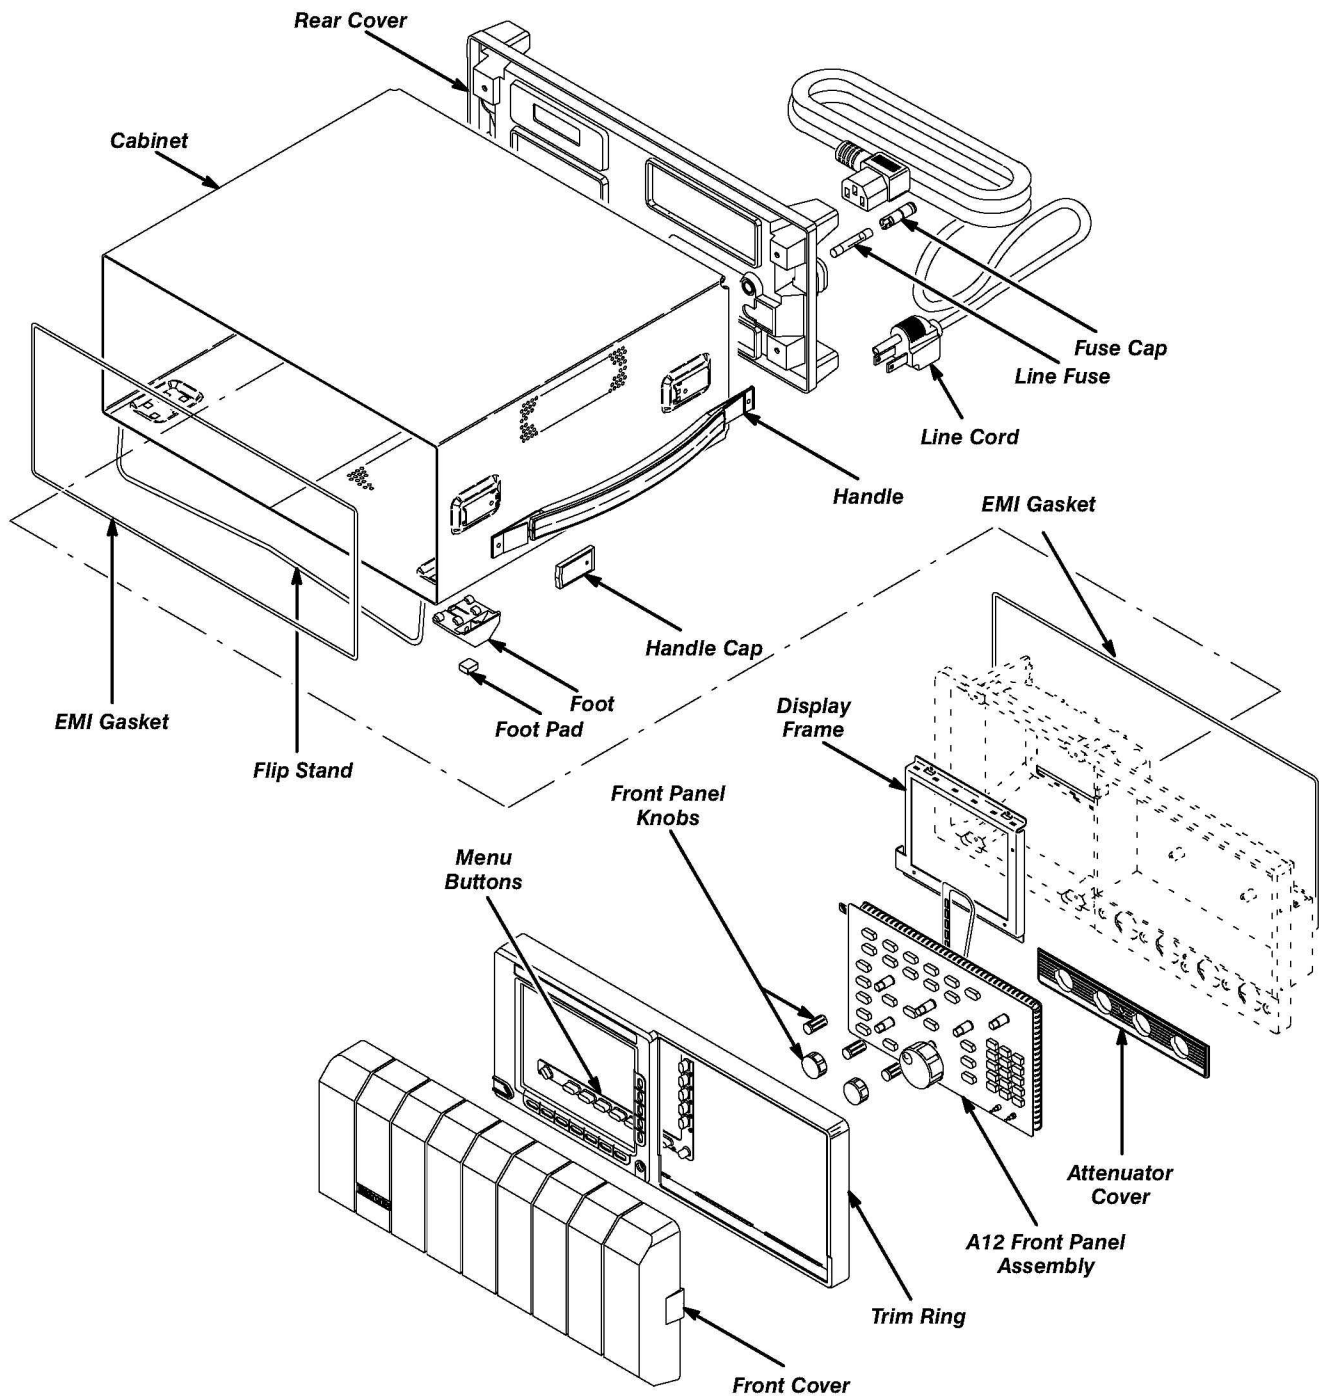
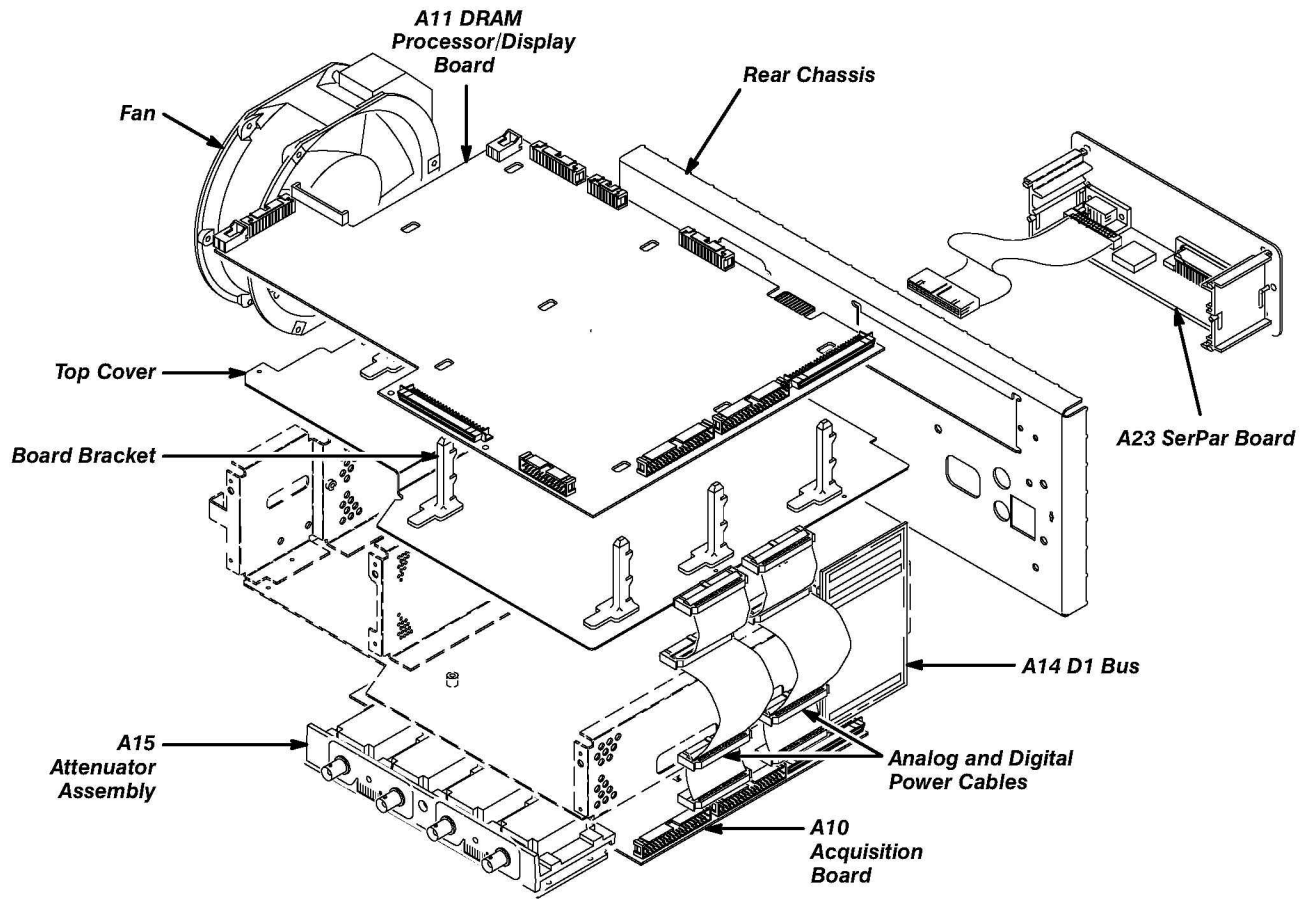
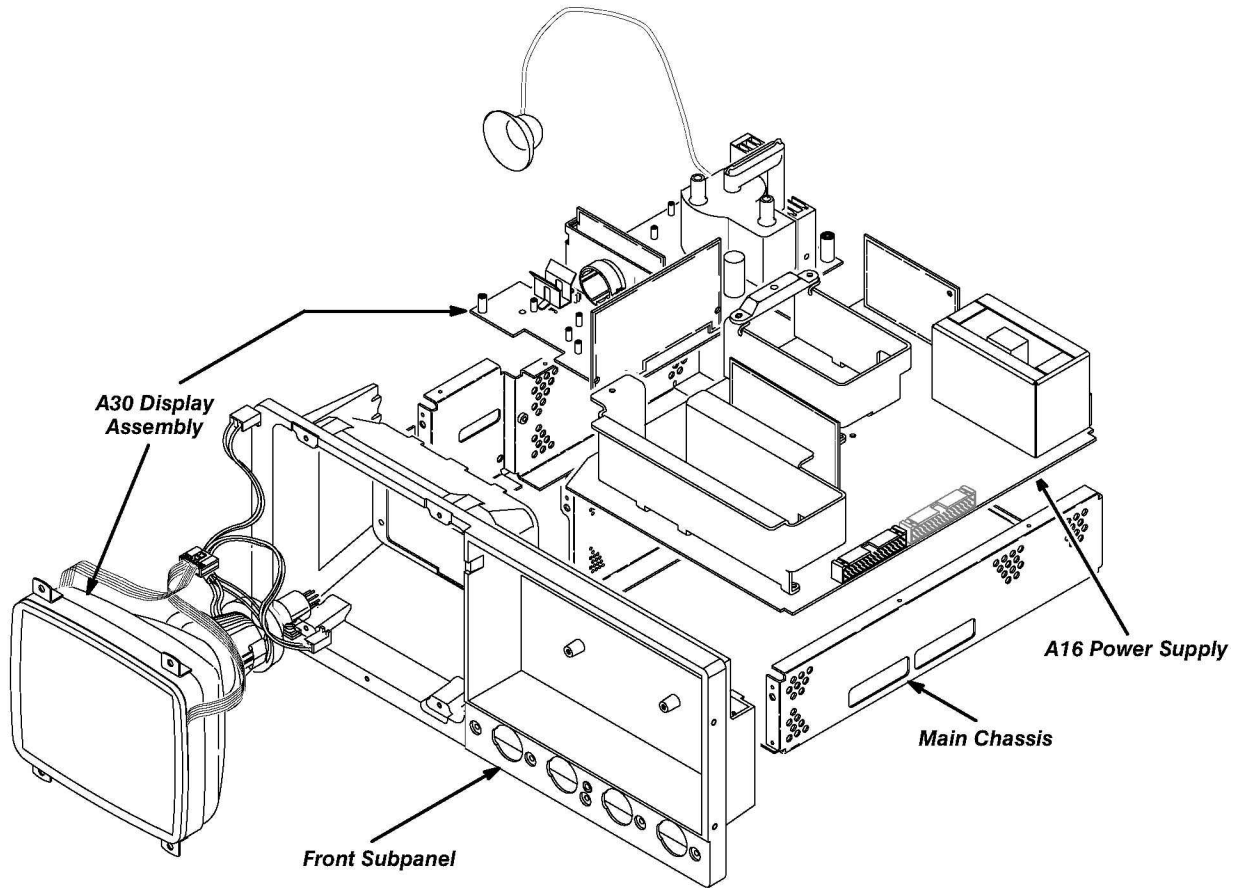

Figure 6-1: External Modules
Figure 6-2: Outer-Chassis Modules
Figure 6-4: Inner-Chassis Modules – TDS 644A with A30 Display Assembly
- Three module locator diagrams for finding the External Modules (see Figure 6-1), Outer-Chassis Modules (see Figure 6-2), and Inner-Chassis Modules (see Figure 6-4) in this oscilloscope.
- a. Find the module to be removed in the module locator diagrams, Figures 6-1 through 6-4.
1. *Assemble equipment and locate modules to be removed:* Have a flat-bladed screwdriver (Item 5) handy. Locate the line fuse and line cord in the locator diagram *External Modules*, Figure 6-1.
- c. Locate the rear cover and cabinet in the locator diagram *External Modules*, Figure 6-1.
- b. Locate the modules to be removed in the locator diagram *External Modules*, Figure 6-1.
1. *Assemble equipment and locate modules to be removed:* No tools are needed. Locate the modules to be removed in the locator diagram *External Modules*, Figure 6-1.